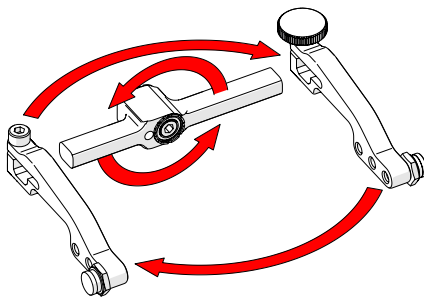

Fig. 59 - Flip yoke and reverse arms
4. Flip the yoke 180° and swap the probe holder arms (Fig. 59).